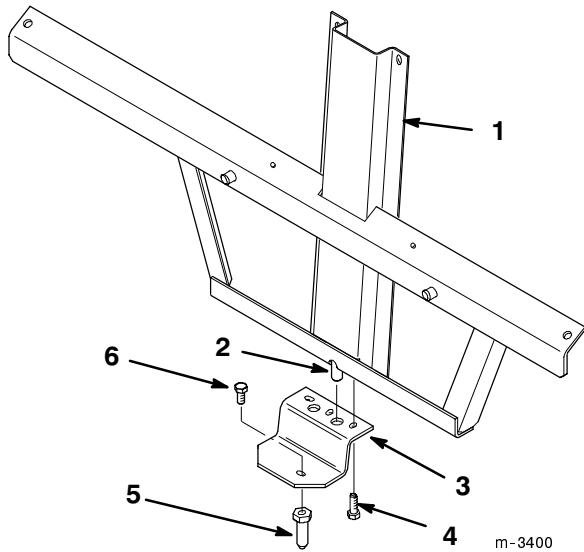

Figure 2
1. Slide the lower extension bracket onto the mounting pin of the mounting frame (Fig. 2).
2. Secure the lower extension bracket to the mounting frame using two 5/16 x 1" bolts and 5/16" locknuts (Fig. 2).
3. Secure the hitch pin in the hole in the lower extension bracket using a 5/16 x 3/4" bolt (Fig. 2).